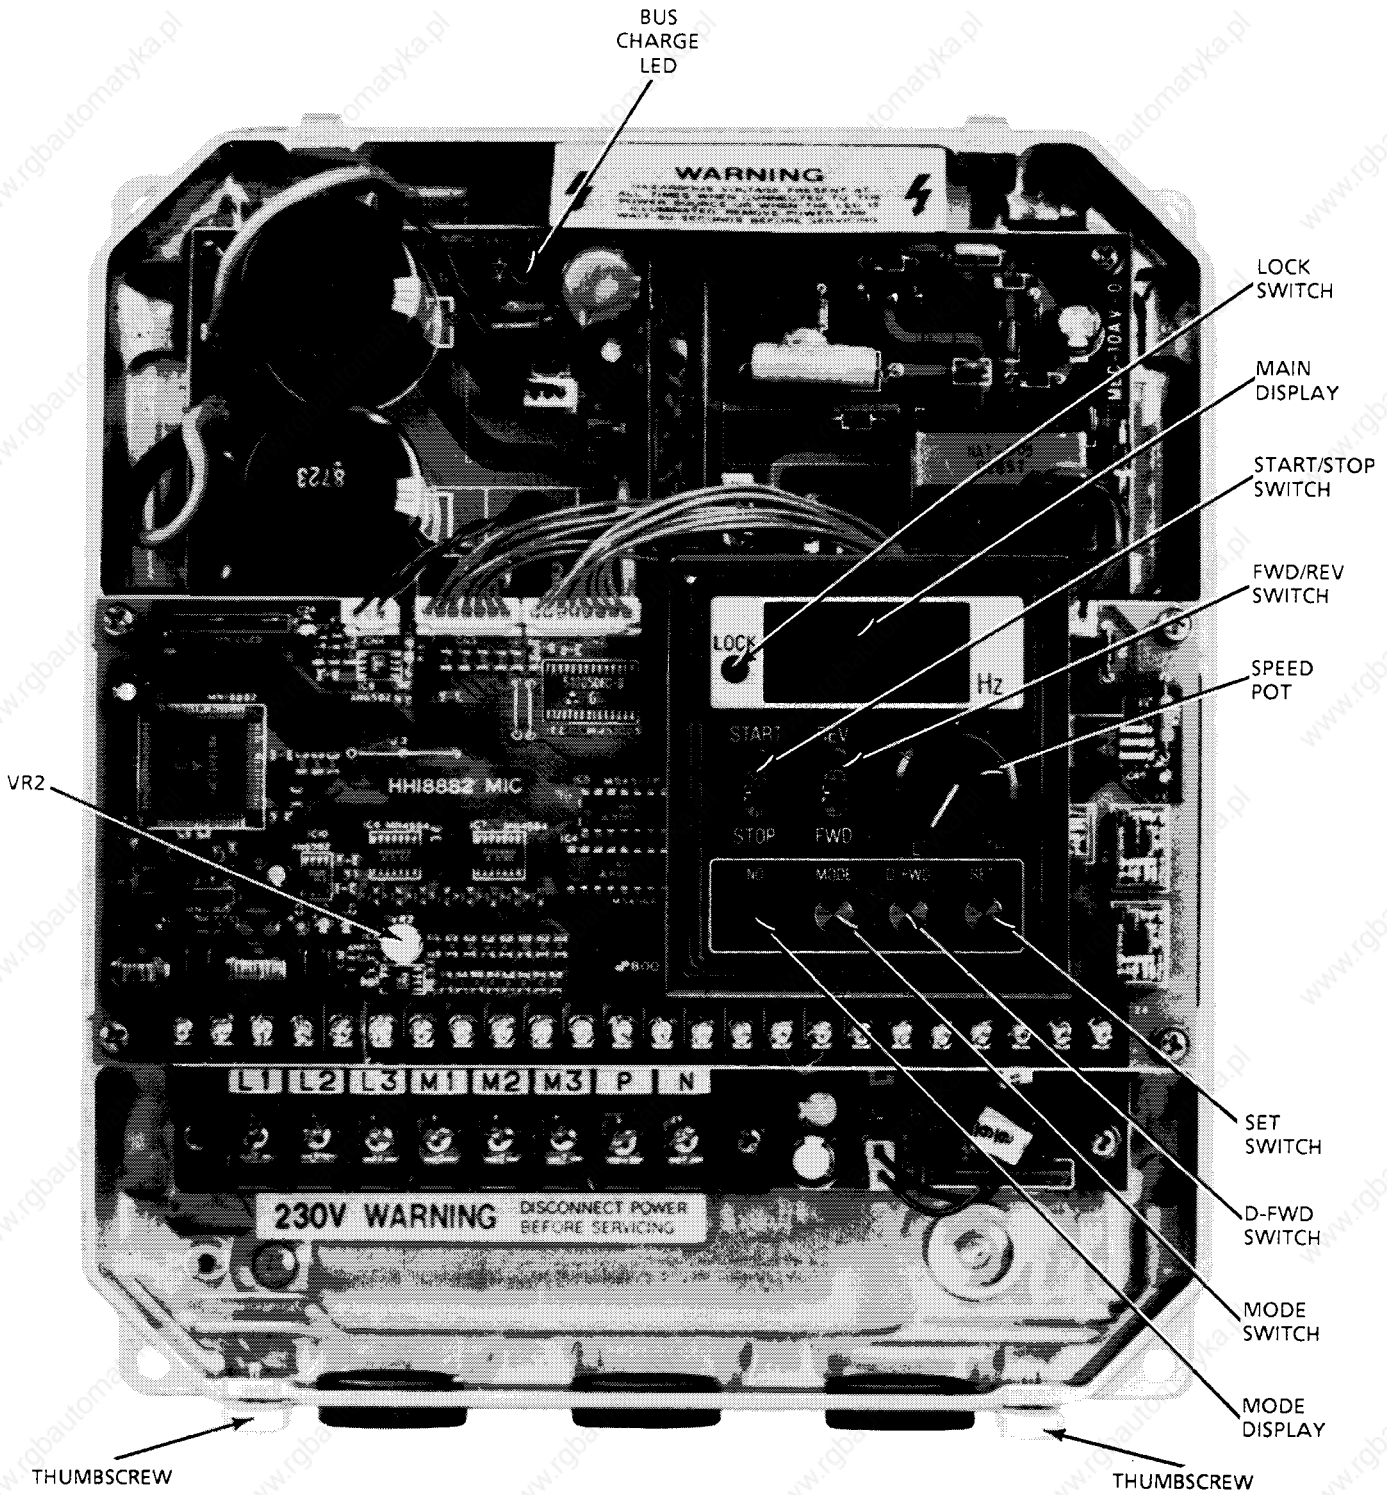

Figure 6.0 – Bulletin 1333 Components
Before proceeding with any maintenance or troubleshooting activity, allow at least one minute after input power has been removed to allow for bus circuit discharge. A **Bus Charge LED** is incorporated on the Drive to provide visual indication of the presence of bus voltage. The bus voltage may be verified by using a voltmeter to measure the voltage between terminals **P** (+) and **N** (–) on the Power Terminal Block. Do not attempt any servicing until the LED has extinguished or the bus voltage has diminished to (0). Refer to **figure 6.0** for LED location.
With all power to the Drive removed, remove the Drive cover. Verify that the incoming AC power and motor connections are in accordance with **section 4.3, Power Circuit Terminals**. Verify that all control logic interconnections are made in accordance with **Chapter 3, Installation**. **Figure 6.0** indicates the locations of adjustments, switches and the LED displays used in start-up and operation of the Bulletin 1333.
Step 2 Locate **Remote Meter Adjustment VR2** on the Control Board as shown in figure 6.0.